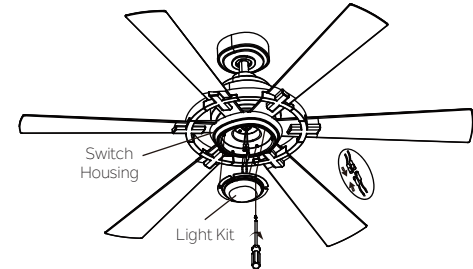

Fig. 22
Step 2. Hold the light kit close to the switch housing and connect the WHITE wires from the light kit and fan by pushing the connectors together. Follow the same procedure with the BLACK wires. (Fig. 22)
Step 3. Tuck the connections neatly into the light kit. Place the two slot holes on the light kit over two (2) screws previously loosened from the switch housing. Rotate the light kit until it locks in place at the narrow end of the key holes. Securely tighten two (2) screws previously loosened and the one previously removed. (Fig. 22)